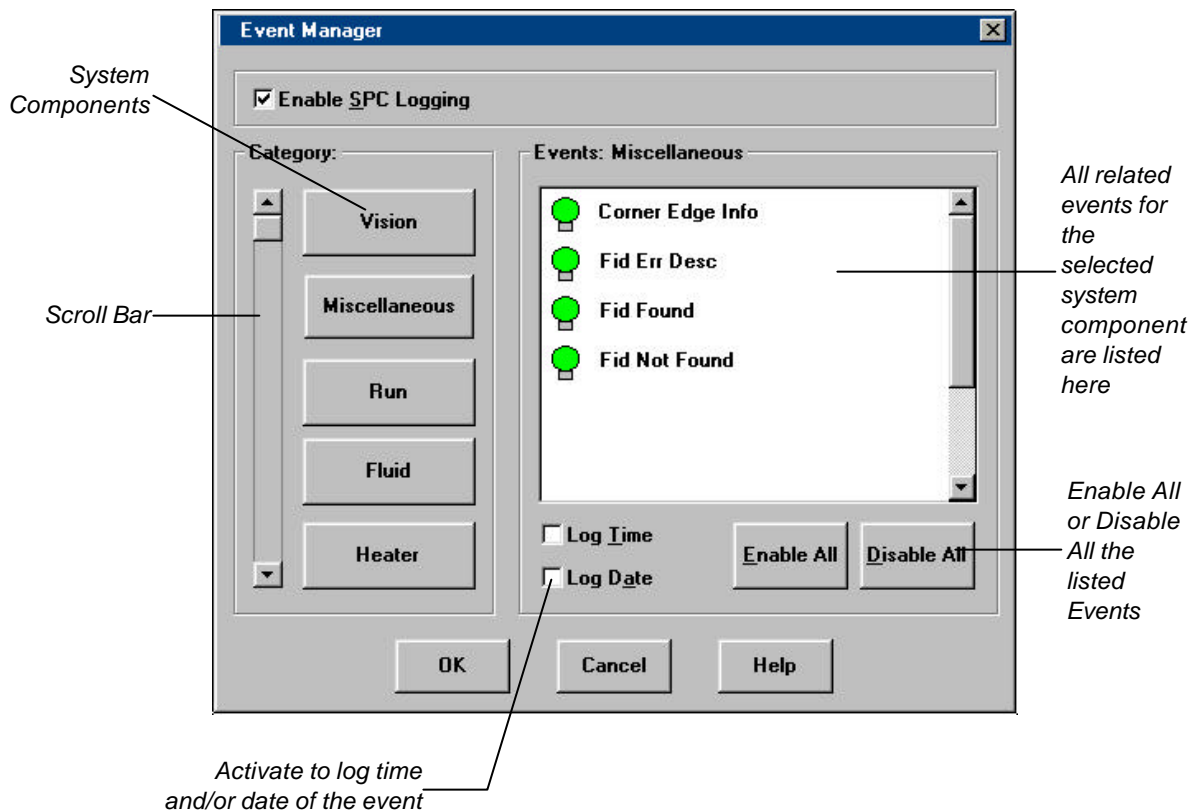

Figure 6-2
2. Select the Categories for which you wish to keep log files and Enable or Disable the Event options for each listed system element. You can enable or disable individual elements by double-clicking directly on the element. Use the scroll bar to see more Categories. Refer to Figure 6-2 for information on the dialog box options.